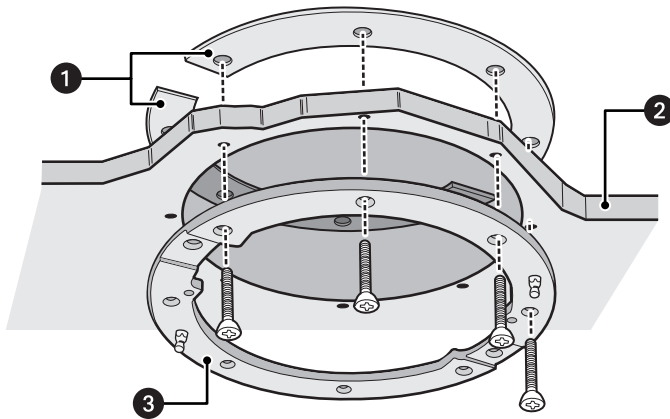

Figure 4. Installing the Plates
4. Install the mounting plates (refer to Figure 4 on page 10). Use the eight 10-32 x 3-inch screws (supplied) to install the mounting ring and the two back mounting plates.